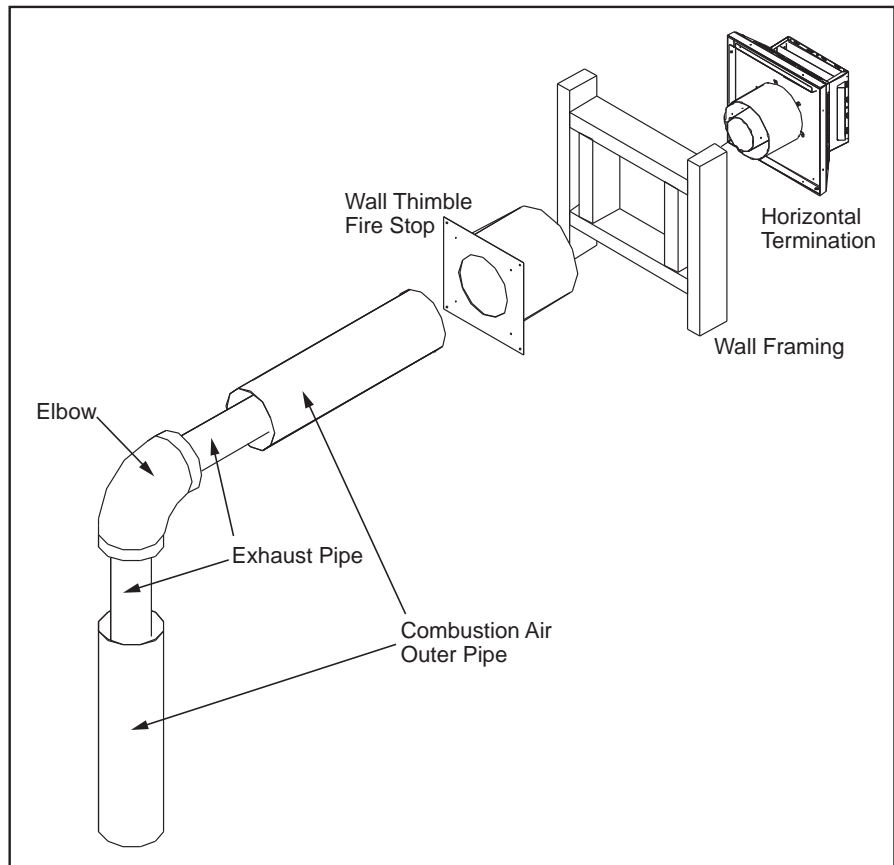

Figure 24. Horizontal Vent Termination
**Step 3.** With the pipe in the correct position and attached to the fireplace, mark the wall for a **10" (25.4 cm) x 10" (25.4 cm)** square hole (see Figure 24). The center of the hole should match the center line of the horizontal pipe. Cut and frame the hole in the exterior wall where the vent will be terminated. If the wall being penetrated is made of a non-combustible material (i.e. masonry or concrete) a **7" (17.8 cm)** hole is acceptable.